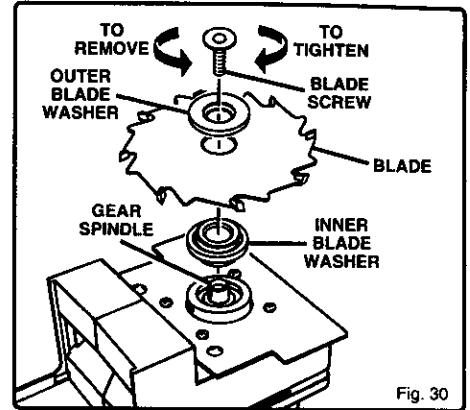

Fig. 30
11. Using a 3/16 in. hex key, remove blade screw. **NOTE:** Turn blade screw counterclockwise to remove. See Figure 30.
14. Place inner blade washer on gear spindle. See Figure 30.